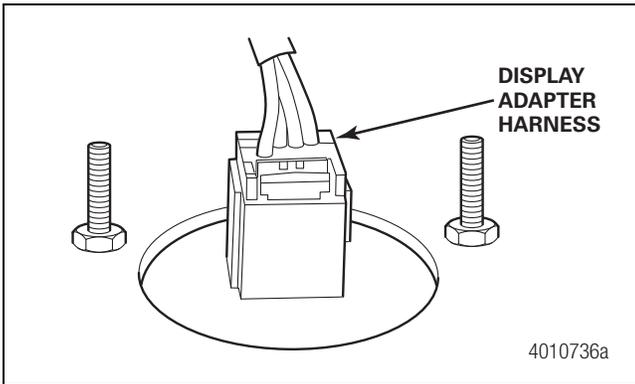

Figure 10
3. Connect the display adapter harness to the new OnGuard™ display. Figure 10.